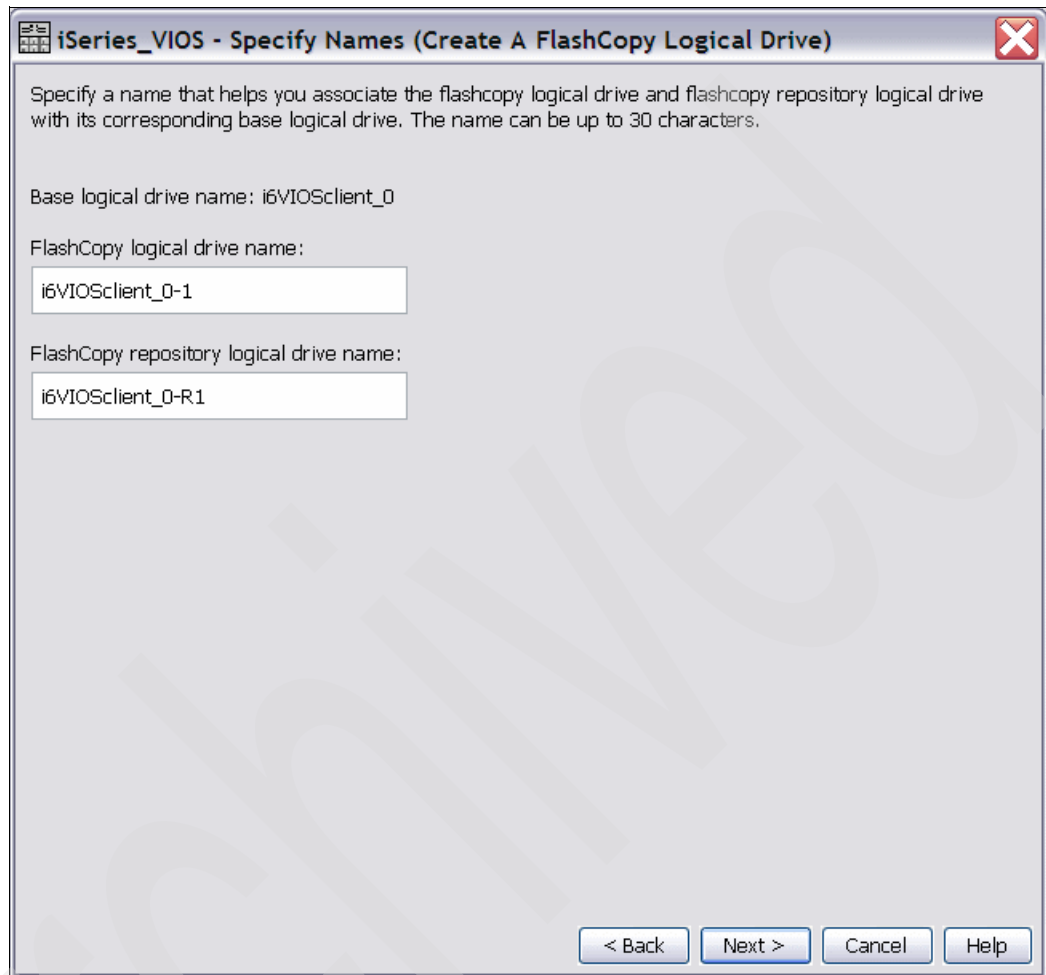

Figure 8-6 Names for FlashCopy drives
7. On the next wizard panel specify the names of the FlashCopy logical drive and the FlashCopy repository logical drive. You can also keep the default names, as shown on Figure 8-6. Click **Next**.